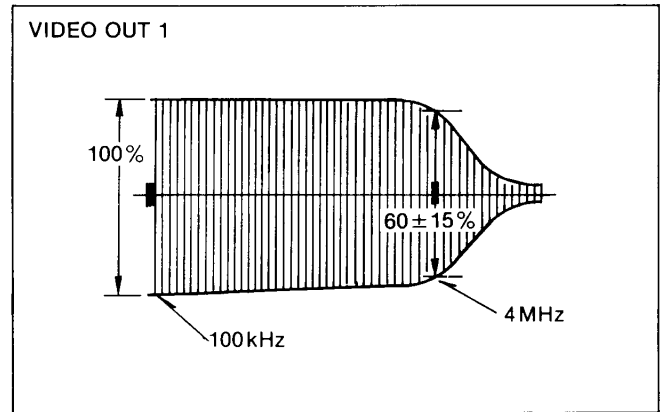

Figure E32
5. Adjust VR3007 so that the playback frequency response becomes the ratio of 100 : 60 +/- 15 at the marker points of 100kHz and 4MHz as shown in Figure E32.